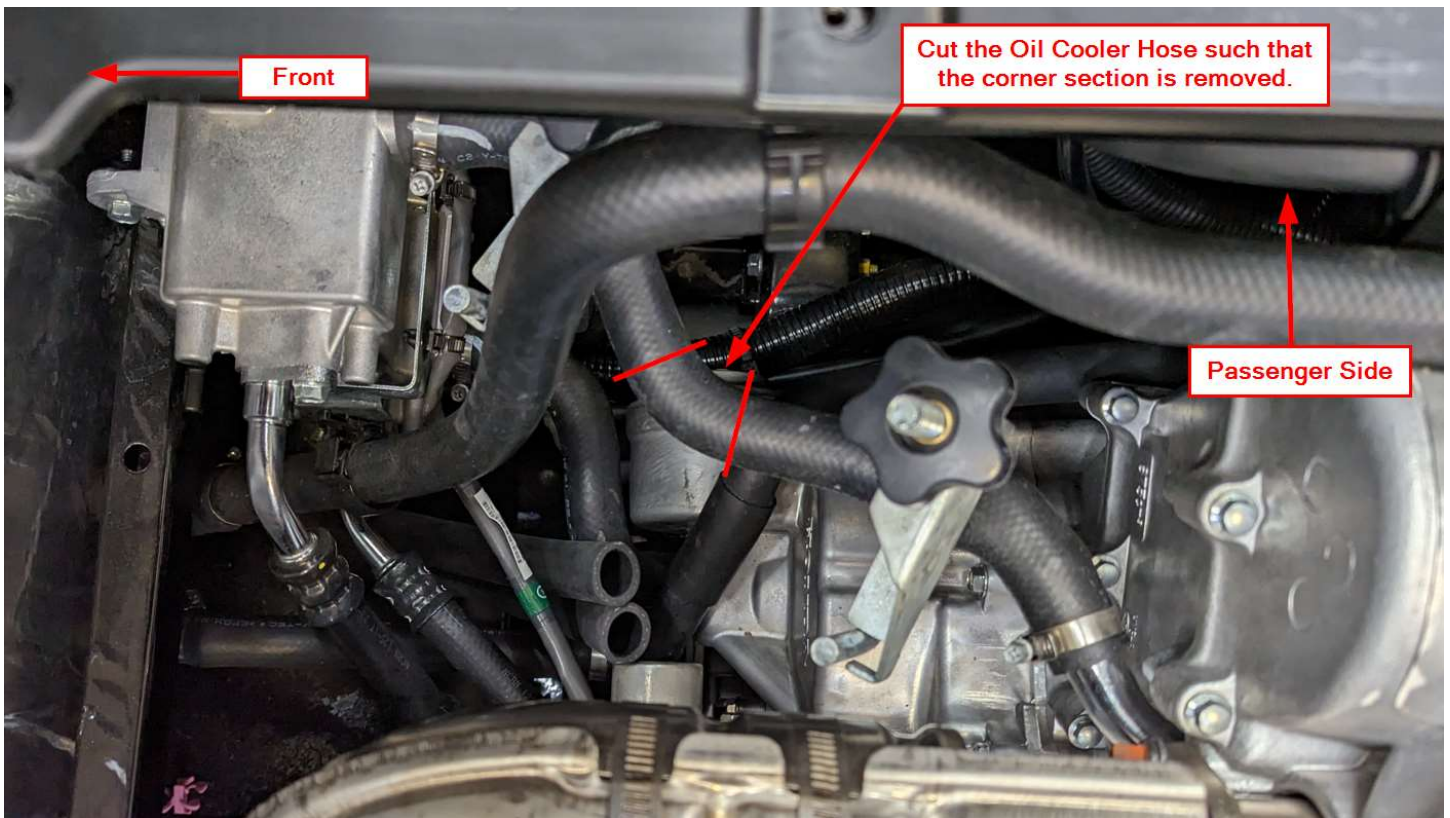

Figure 15
- c. If available, use Hose Clamp Off Tools to clamp either side of the Oil Cooler Hose bend shown in Figure 15. If not clamps are available it's best to drain the coolant and store it for reuse later. Remove the corner of the Oil Cooler Hose as shown in Figure 15.